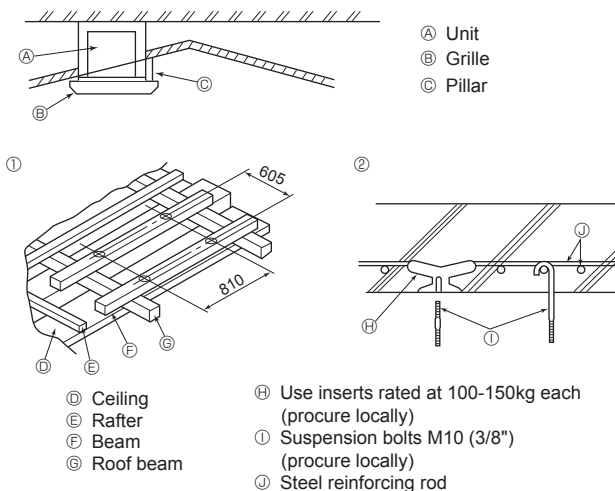

Fig. 2-4
- (G) 14- ϕ 2.8 burring hole
- (H) ϕ 150 cut out hole
- (I) ϕ 175 burring hole pitch
- (J) Fresh air intake hole diagram
- (K) 3- ϕ 2.8 burring hole
- (L) ϕ 125 burring hole pitch
- (M) ϕ 100 cut out hole
- (N) Ceiling
- (O) Detailed figure of removing the insulator
- (P) Insulator
2.4. Suspension structure (Give site of suspension strong structure) (Fig. 2-4)
- ① Wooden structures
- ② Ferro-concrete structures